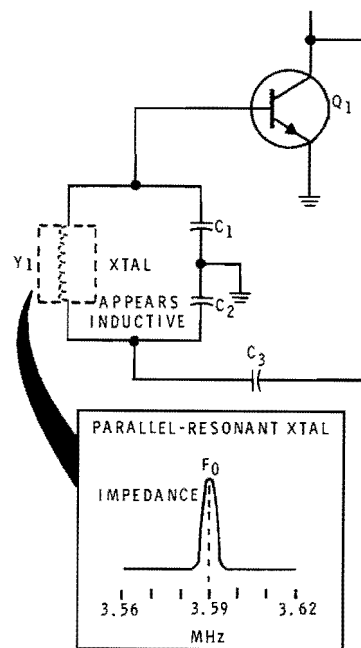

Figure 5-52
Step 7 illustrated an important point as you removed the 47 microhenry inductor and replaced it with the crystal. The resulting circuit is a crystal operating in its parallel-resonant mode, replacing the tuned circuit inductor. Figure 5-52 shows the resulting circuit. At parallel resonance, the crystal appears inductive. It now replaces the inductor and is resonant with series capacitors  $C_1$  and  $C_2$ . Although the parallel-resonant frequency is slightly higher than the crystal's series-resonant frequency, the difference is so small that it's difficult to see on an ordinary oscilloscope.